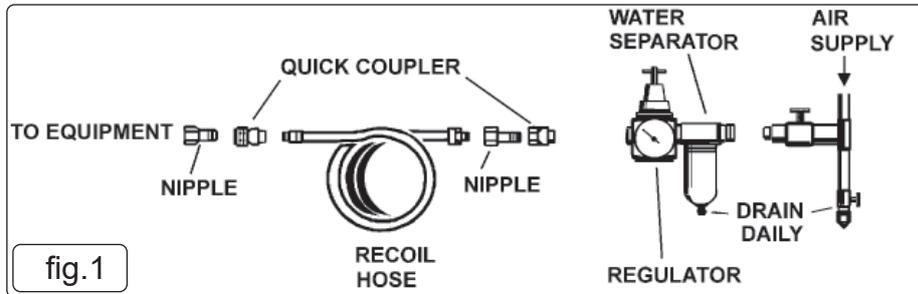

fig.1
4.1.4. Recommended hook-up procedure is shown at (fig 1).